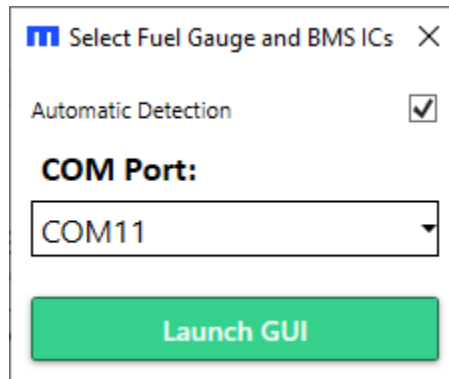
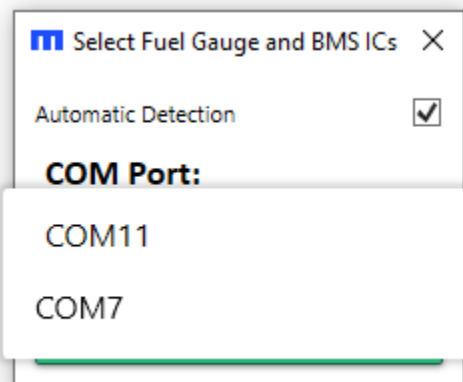

Figure 28: Fuel Gauge and BMS ICs Selection Window 6
Figure 29: Fuel Gauge and BMS ICs Selection Window 7
- c. Allow the GUI to automatically detect which device is connected. In this scenario, select the COM port connected to the evaluation board on the drop-down menu (see Figure 28 and Figure 29).
1. Click “BMS” (denoted as “10” in Figure 28 on page 25).